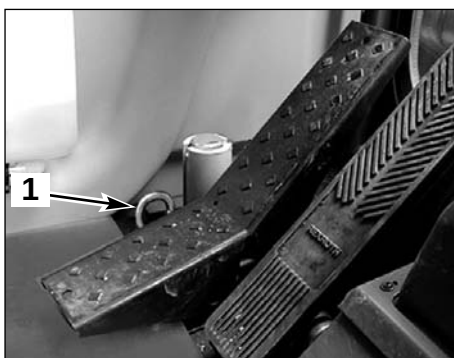

Fig. 2
- Lock the turntable (1 fig. 2).